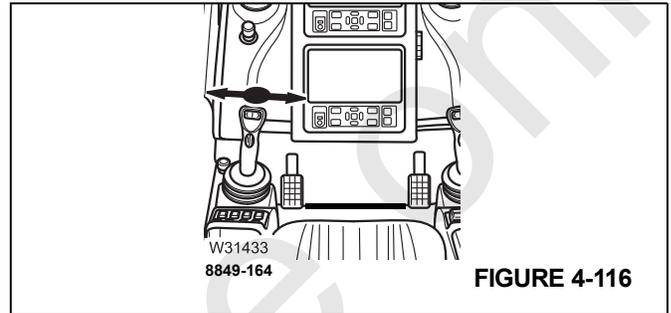

FIGURE 4-116
You can limit the maximum swing speed (1), (Figure 4-116). Refer to *Controller Speed Function*, page 4-187.
To swing to the left:	• Push the control lever to the left (Figure 4-116).
To swing to the right:	• Push the control lever to the right (Figure 4-116).